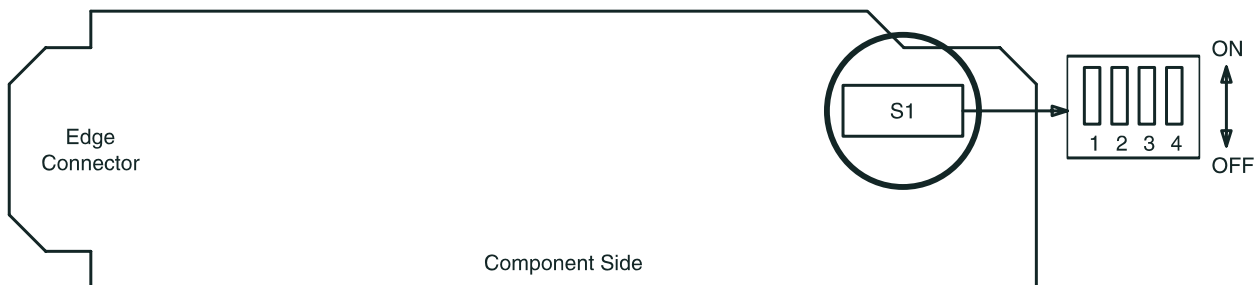

Figure 4. BBF8 HDSL Control Switch
15. Set HDSL option switches per Table E and Figure 4.